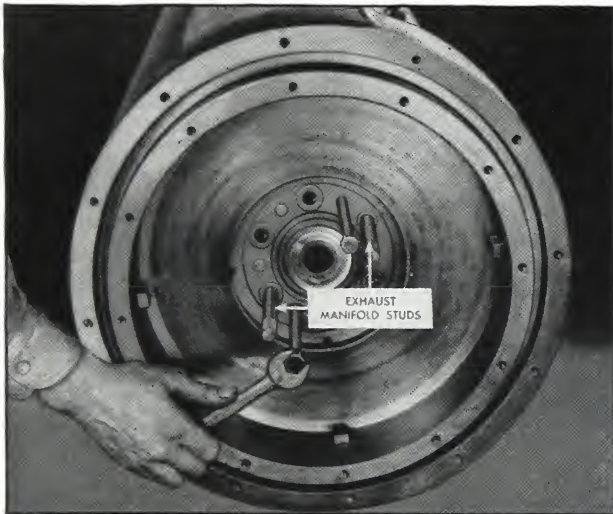

Fig. 1-6. Pulling flywheel
2. In the two holes provided, place $\frac{1}{2}$ "-13 capscrews $2\frac{1}{2}$ " long, threaded their entire length. By alternately turning in these capscrews, the flywheel will be pulled from the crankshaft. See Fig. 1-6.